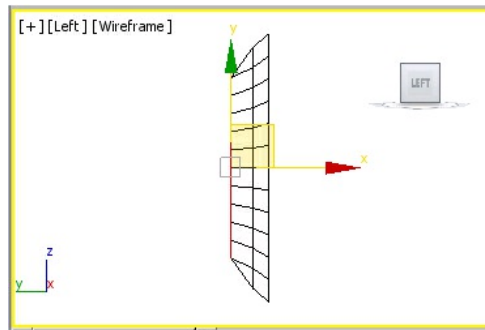

Figure 8-136 Selected polygons dragged horizontally
17. Activate the Left viewport and make sure that the polygons are still selected. Right-click on the **Select and Move** tool; the **Move Transform Type-In** dialog box is displayed. In the **Offset: Screen** area, enter **-7** in the **X** spinner and press ENTER; the selected polygons move in the horizontal direction, as shown in Figure 8-136. Next, close this dialog box.